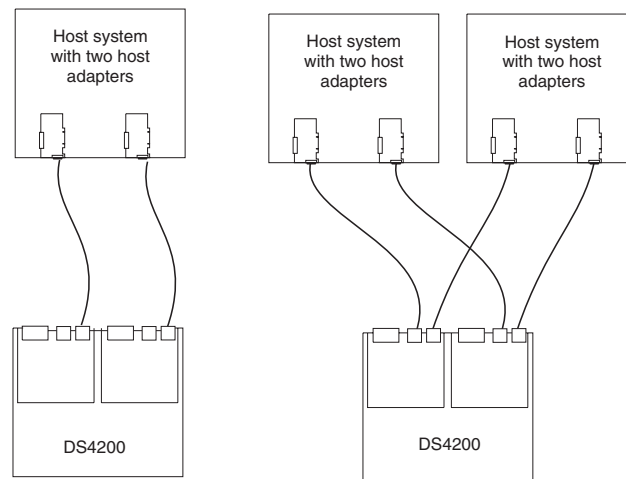

Figure 57. Examples of redundant host direct attached fibre channel configurations
- Redundant host and drive fibre channel loop configurations, as shown in Figure 57